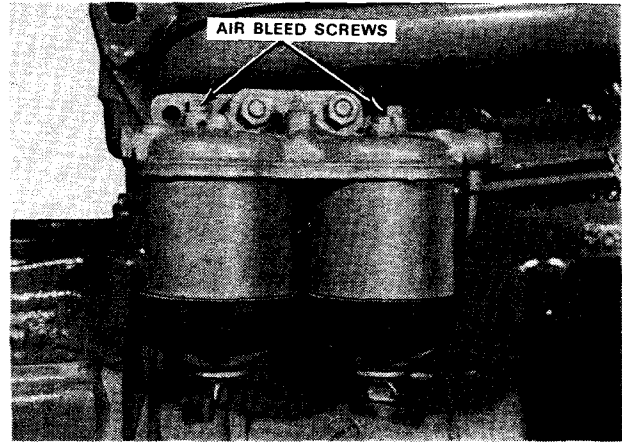

FIG. 5 Air Bleed Screws—Typical
1. Loosen the fuel filter air bleed screws two full turns (Fig. 5).